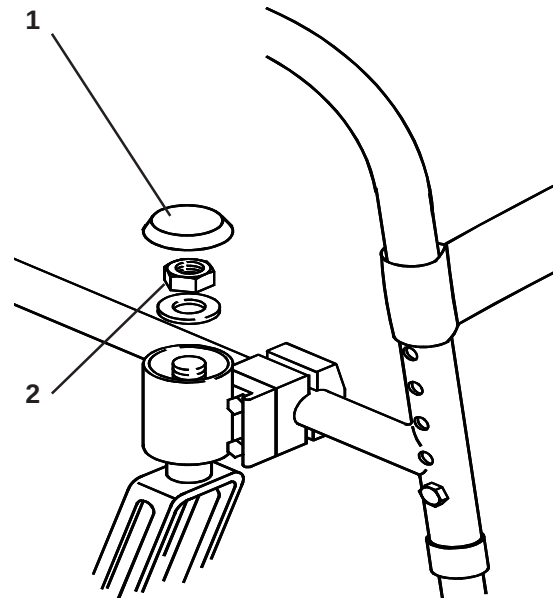

Fig. 48
To remove play from the castor stem (Fig. 48), remove the dust cover (1) by prising it off. Tighten the nut (2) with a 19mm A/F socket spanner until all play is removed, yet still allows the castor fork assembly to rotate freely. Replace the dust cover by snapping it back in place. (Fixed front frame).